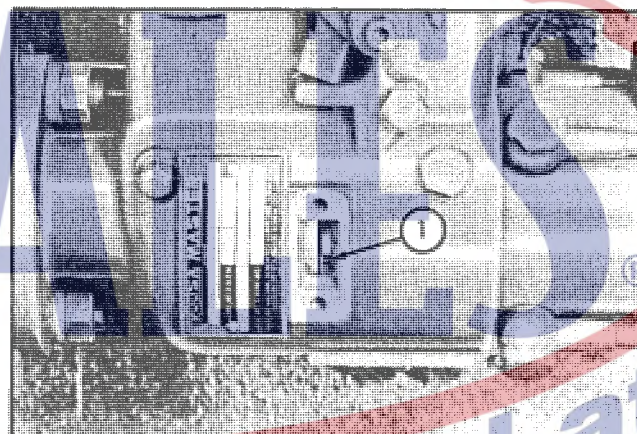

Fig. 64
- b. Remove the timing cover on the side of the pump. Turn over the engine until the pump timing marks line up, as shown in Fig. 64.